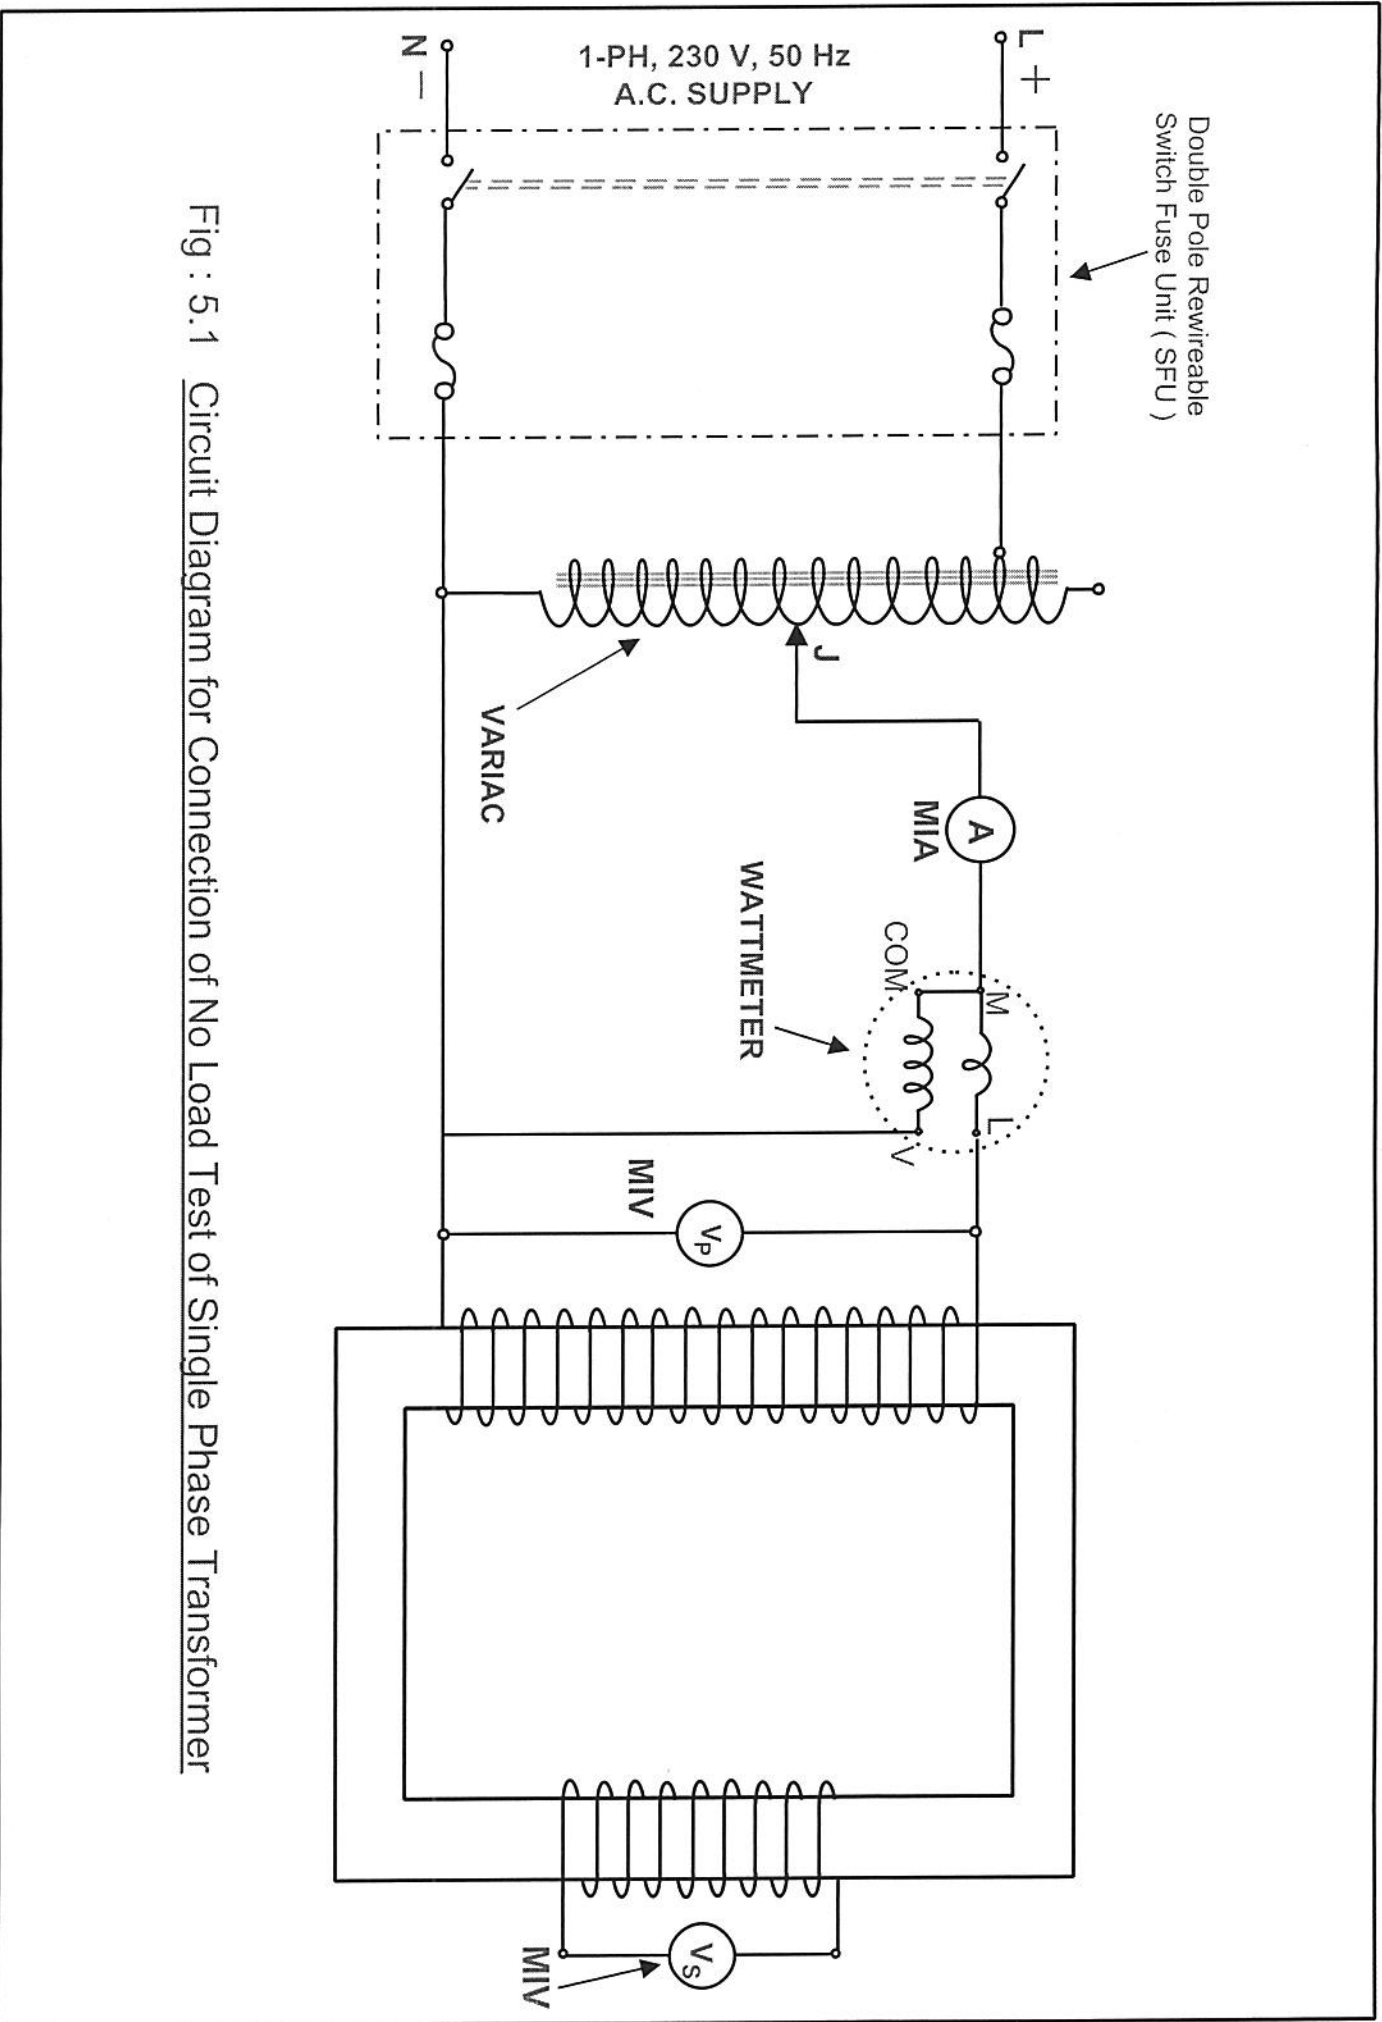

Fig : 5.1 Circuit Diagram for Connection of No Load Test of Single Phase Transformer
- 1) Make connections as shown in the Fig.5.1 and switch on the supply voltage.